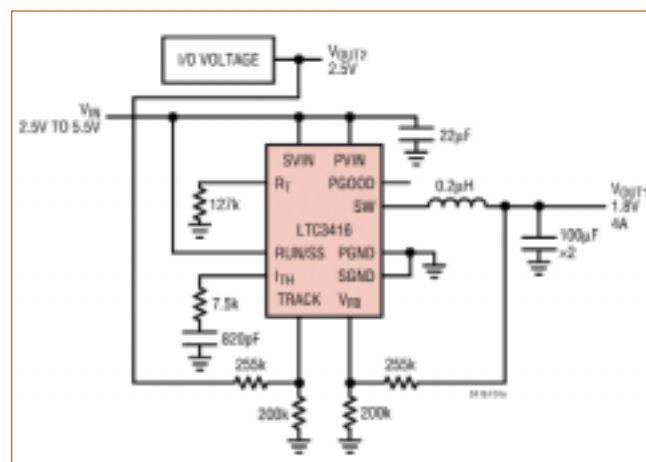

Figure 2. A 2.5V to 1.8V at 4A Step-Down Regulator with Tracking.
example is the LTC3416. The LTC3416 is a monolithic, constant frequency, current mode step-down converter with a frequency range of 300kHz to 4MHz that allows easy power supply sequencing. The forced continuous operation allows the LTC3416 to maintain a constant frequency throughout the entire load range, making it easier to filter the switching noise and reduce the radio frequency (RF) interference, which is very important in electromagnetic interference (EMI) sensitive applications. Furthermore, the LTC3416 operates from an input voltage range of 2.25V to 5.5V and can generate an output voltage between 0.8V and 5V, as shown in Figure 2.